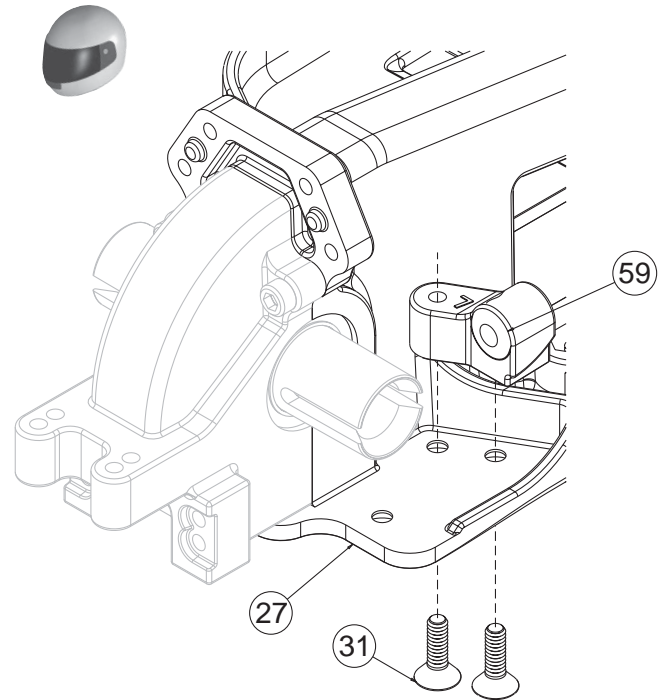

Figure 27
1. Install the Left Front Pivot Block (59) by threading two 4-40 x 3/8" Flat Head Screws (31) through the bottom of the Chassis, and into the Pivot Block as indicated in Figure 27.
2. Repeat step 1 for the Right Front Inner Pivot Block (60).